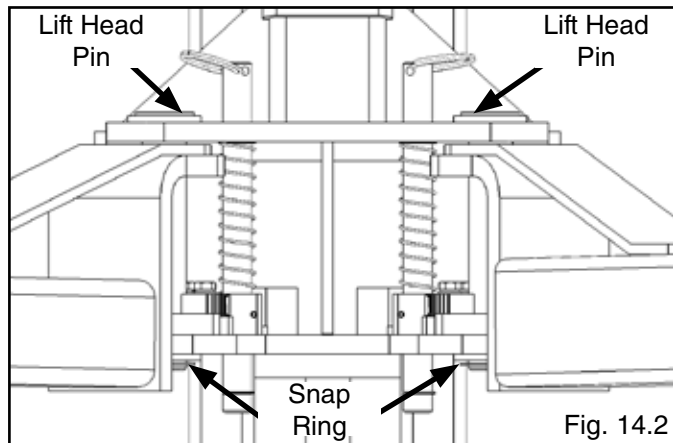

Fig. 14.2
3. Install the snap ring into the groove in the Lift Head Pin on under side of the Lift Head. (See Fig. 14.2)